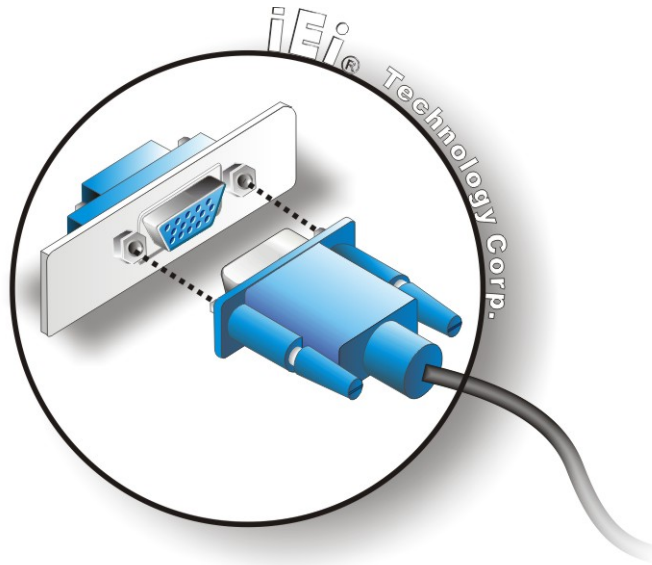

Figure 4-26: VGA Connector
Step 3: Insert the VGA connector Once the connectors are properly aligned with the insert the male connector from the VGA screen into the female connector on the WAFER-NM701-1007U. See **Figure 4-26**.